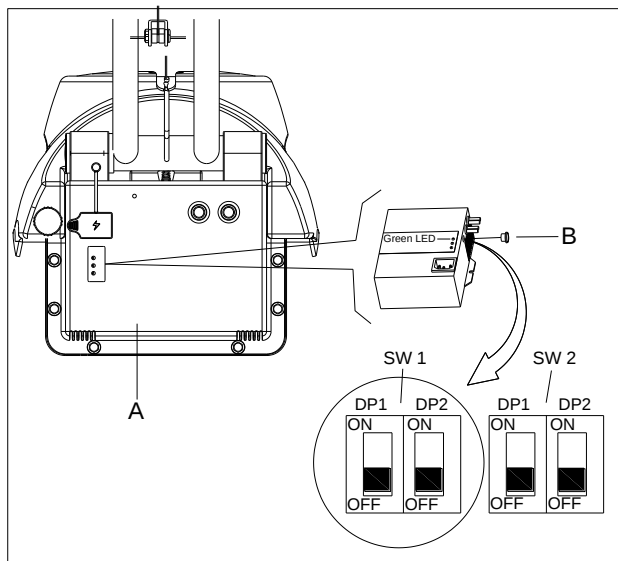

FIGURE 4
1. Turn off the machine and disassemble the cover (A as Figure 4) from the machine. Then remove the round black cap located on the front side of the charger (B as Figure 4). you will find the 2 sets of dipswitches (SW1 and SW2) in the charger.